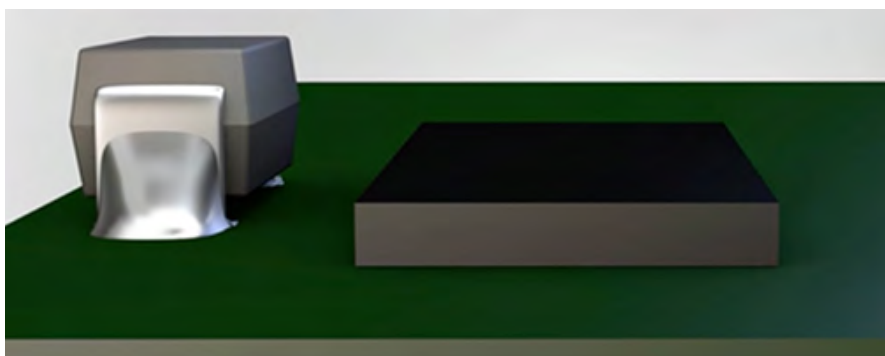

Figure 6: Dual, mirrored input capacitors are also added to constrain EMI. (Image source: Analog Devices)
Figure 6: The MAX16161 and MAX16162 are similar but with a small functional and pinout difference: the MAX16161 has an MR input that asserts a reset when it receives an appropriate input signal, while the MAX16162 has separate VCC and VIN pins. (Image source: Analog Devices)
The MAX16161 is a close sibling of the MAX16162 with nearly identical specifications, but with one functional difference and some redefining of pin assignments (Figure 6). It features a manual reset (MR) input that asserts a reset when it receives an appropriate input signal, which can be either active-low or active-high, depending on the option selected. In contrast, the MAX16162 has no MR input but instead has separate VCC and VIN pins, allowing threshold voltages as low as 0.6 volts.
- Technique #2: The use of symmetrical input capacitors bounds EMI by creating balanced, opposing currents (Figure 6).